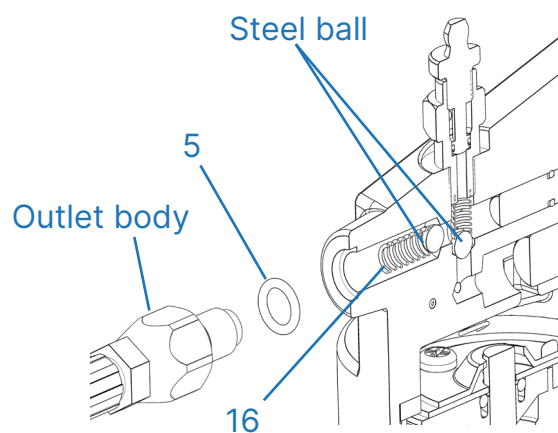

Figure 13
1. Remove the nozzle and hose assembly out of the gun body. (See Figure 13)
2. Replace the O-ring (5) and spring (16) then reattach the nozzle to the gun body, tightening it securely.
Ensure that the springs and steel balls are properly in place as shown in Figure 13 before reassembly of the replacement instructions 4 and 5.